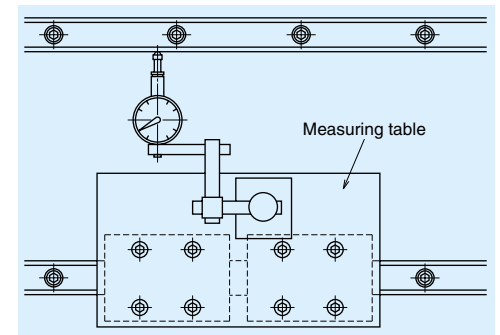

Fig. II-9-15 Measuring parallelism
- ③ If the mounting face of the bed where the adjusting side rail is installed also has a shoulder, repeat the steps ① - ②.
- ④ If there is no shoulder on the mounting face of the bed for the adjusting side rail: Secure a measuring table to the ball slides of the reference side rail (Fig. II-9-15). Use this to adjust the parallelism of the adjusting side rail. Check parallelism of the adjusting side rail with a dial gauge from one end of the rail, tightening the bolts one by one. The measuring table is more stable if secured to two bearings, but one bearing is sufficient. Parallelism between two rails can also be checked by the same method in Fig. II-9-15 when there is a shoulder on the face where the adjusting side rail is installed.